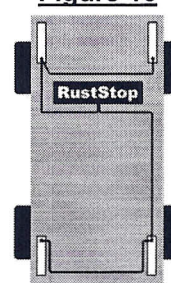

Figure 9
Now run the wire from this Rust Magnet™ to the other front Rust Magnet™, cut the wire, leaving ample length to make connection to the Rust Magnet™. Strip the end exposing 20 mm (3/4 inch) bare copper. Twist the exposed copper, bend it back over itself (doubling the copper width) and insert the exposed copper into a small (3mm) ring terminal (See Figure 9). Run the rear Rust Magnet™ wires in the same way, starting with the closest Rust Magnet™ from the Command Module, linking each Rust Magnet™ toward the furthest Rust Magnet™. Note: If the vehicle is continually exposed to extremely harsh conditions, you should first "tin" the wires with rosin-core solder and then solder the wires to the connectors.
4. **RUN AND CONNECT THE POWER WIRES:** Thread the **black wire** from the Command Module through the engine compartment to the vehicle's battery, securing it occasionally, and leaving ample length to connect it to the negative battery terminal. (If the wires provided are too short due to relative locations of the Command Module and Battery they may be lengthened accordingly. Be sure to insulate connections well using connectors or tape.) Strip the end by removing about 20 mm (3/4 inch) of insulation, twist the exposed copper, bend it back over itself (doubling the copper width) and insert the exposed copper into a large (8mm) ring terminal (similar to Figure 9) and crimp firmly. Fasten this to the negative battery terminal connection.
Thread the **red wire** from the Command Module through the engine compartment to the vehicle's battery, securing it occasionally, and leaving ample length to connect it to the positive battery terminal. (If the wires provided are too short due to relative locations of Command Module and Battery they may be lengthened accordingly. Be sure to insulate connections well using tape or connectors.) Strip the end by removing about 20 mm (3/4 inch) of insulation, twist the exposed copper, bend it back over itself (doubling the copper width) and insert the exposed copper into a large (8mm) ring terminal (similar to Figure 9) and crimp firmly. **IMPORTANT: Do this last;** fasten this to the positive battery terminal connection.